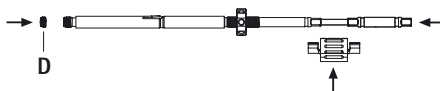

Fig. 12
- Insert the screwdriver in the lever threadpipe, secure it with the spacer and install locking screw D, see Fig. 12.